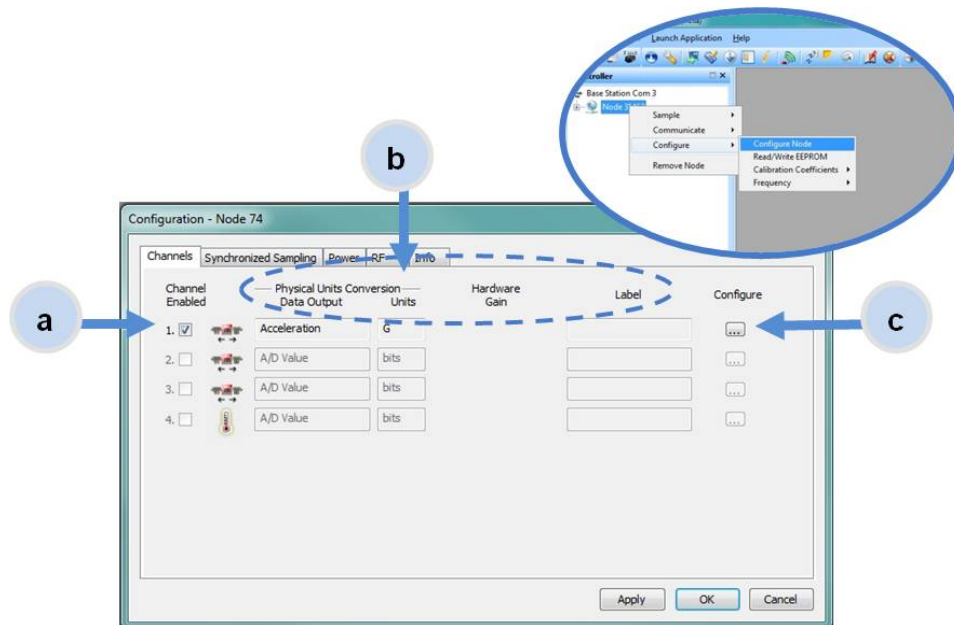

Figure 8 - Node Channels Menu
2. To enter the channel configuration menu, select the Configure button as shown in Figure 8 - Node Channels Menu. The channel configuration menu options change depending on the sensor type selected.